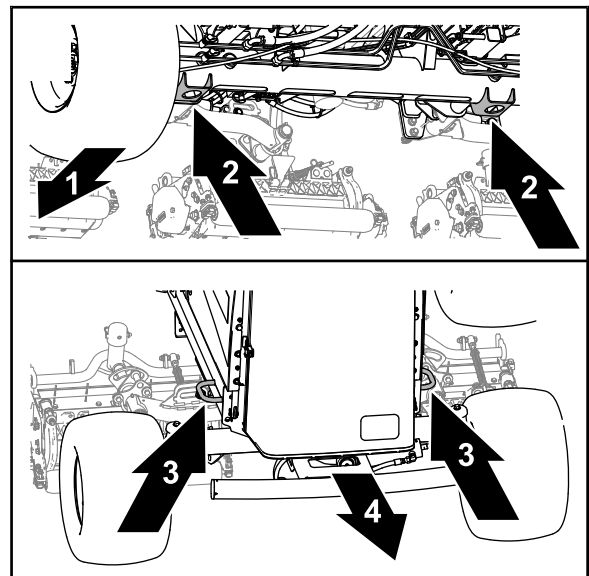

Figure 94
- Front—the hole in the jack brackets of the front-axle tube (Figure 94).